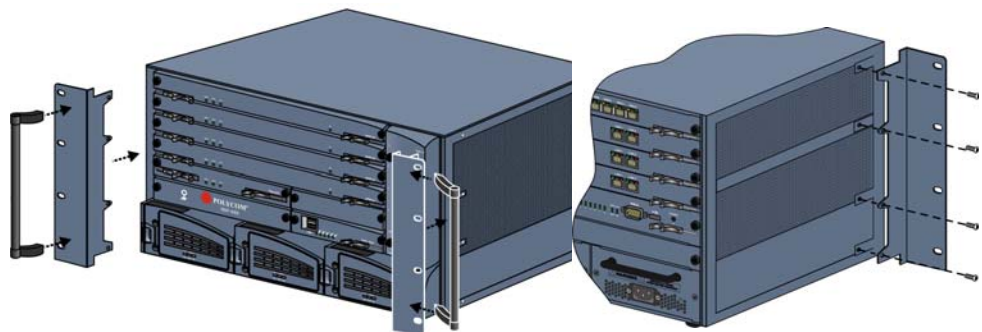

Figure 1-5 Installing the handles and brackets & detailed rear view of 23" bracket attachment
- 2 After removal, attach the 23" brackets as provided in the *Rack Installation Accessories kit*, and re-install the handles to the 23" brackets. This is shown in Figure 1-5.